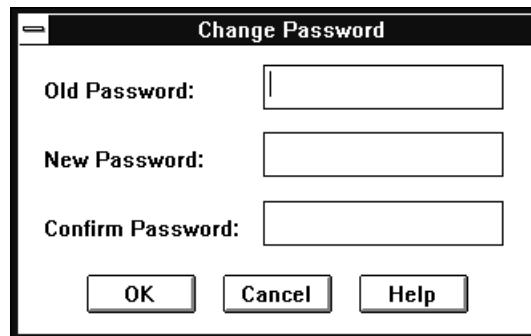

Figure 8-1. Change Password Dialog Box
- 2 Select **Server Administration** from the View menu. Then select **Change Password**. The Change Password dialog box appears, as shown in Figure 8-1.